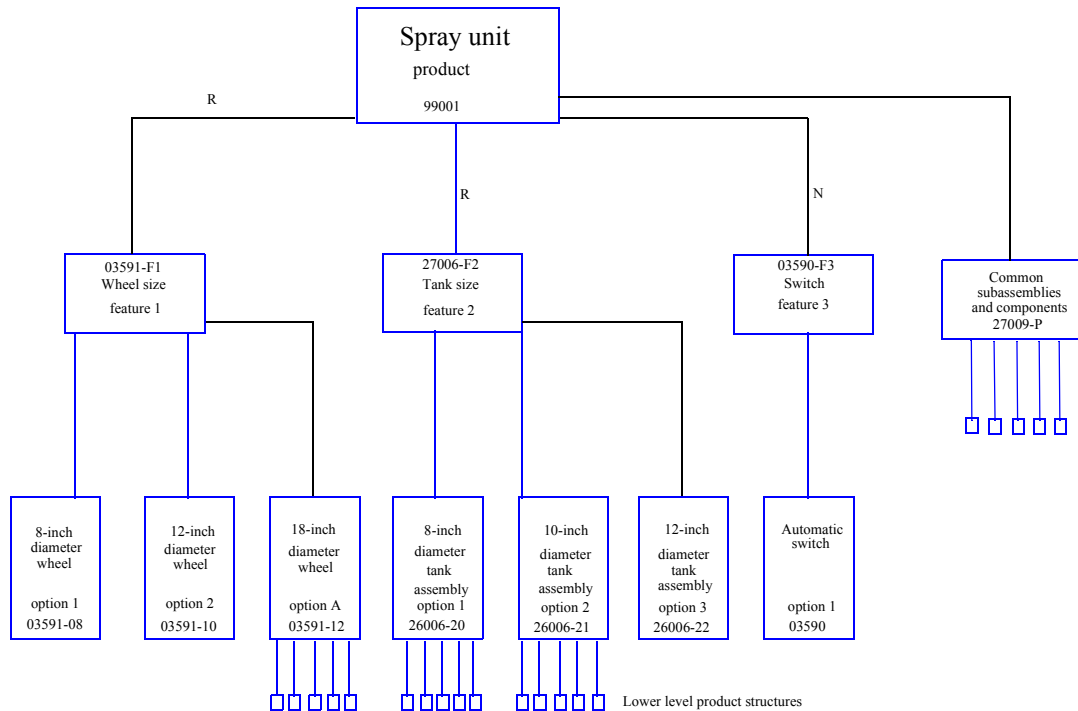

Figure 2-2. A spray unit with features and options
To use features and options, you must follow certain rules. A feature item is designated by Item Type Code F. A feature can only describe an end item (an item that is not a component of anything else). The structure record that defines a feature to an end product must contain a feature/option code of R or N to designate whether the feature is required or nonrequired, and a feature number to designate what position within the S-number this feature occupies among other features for this product. The options of a feature are designated in the Product Structure file by a feature/option code of O and a feature/option number which is unique for this feature. An option may be designated by any combination of characters A-Z or 0-9. A one position option must have a leading 0 in the Product Structure file, and no option may be 00, because that is reserved for omitting nonrequired options. The feature or option number cannot contain duplicates in a single-level structure. Otherwise, unpredictable results may occur. For example, in Figure 2-2, wheel size is feature 1 and an 8-inch diameter wheel is option 1. There can be no other feature on the end-item designated as 1 and no other option on that feature designated as 1.
Figure 2-2 shows how the bill of material would be structured to describe the standard product options for the spray unit. All the selectable options for the product are grouped (structured) under features. The boxes represent the Item Master records for the product, features, options, and common components. The connecting lines represent the bill of material (product structure) records. Codes in the product structure identify each feature of a product as required (R) or not required (N). After the bill of material has been loaded as shown, specific types of spray units can be selected for costing, customer order entry (if the Customer Order Management application (COM) is installed and interfacing), and manufacturing order release (if the Inventory Management application (IM) is installed and interfacing).
Using the template above, you could set up an S-number for end item A as 22AB321230Z which translates as 22/AB/32/1/2/3/0Z: option 22 for feature 1, option AB for feature 2, option 32 for feature 3, option 1 for feature 4, option 2 for feature 5, option 3 for feature 6, and option 0Z for feature 7. The length of the S-number is variable, but cannot exceed 20 digits. In the example above, the sum of the field sizes in the template is 11. The remaining 9 may be saved for future requirements and may be designated in any combination as discussed. In Figure 2-2, if you use all (20) one-digit features, S-number 321 specifies a spray unit with 18-inch wheels, a 10-inch diameter tank, and an automatic shutoff switch. S-number 130 specifies a spray unit with 8-inch wheels, a 12-inch diameter tank, and no automatic shutoff switch. If you were using all (10) two-digit features, the spray unit with S-number 020301 would have 12-inch wheels, a 12-inch diameter tank, and an automatic shutoff switch.
If you have a group of components that are frequently used together in assemblies, you can save time and space in the product structure file by making that group of components a phantom item in the product structure record. A phantom item (item type=0) is an item that is not physically stored in inventory and is normally defined for the convenience of material planning or engineering. A phantom can be used to store, in one structure, a group of parts common to many assemblies. For example, refer again to Figure 2-2. It may be convenient to establish a phantom item to represent the common subassemblies and components of the spray unit.